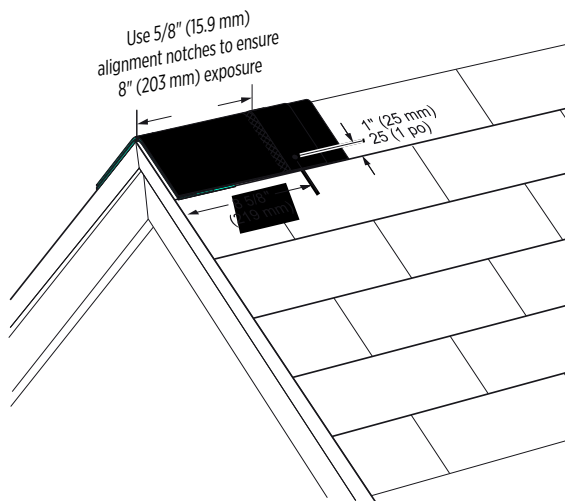

Figure 18-14: Install cap shingles at an 8" exposure and fasten with one nail on each side as shown.
centerline and forming it into place over the hip or ridge, flush with the bottom and side edges of the starter shingle. Utilizing the 5/8" (15.9 mm) notches located on either side of the shingle as a guide, position to help ensure the 8" (203 mm) exposure. Fasten with two (2) fasteners minimum 1-3/4" (45 mm) long with one (1) nail on each side of shingle 8 5/8" (219 mm) up from the butt edge and 1" (25 mm) in from each side edge (see Figure 18-14).